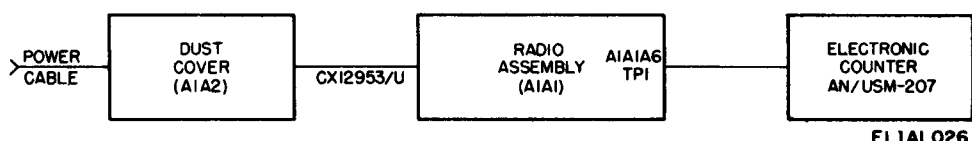

Figure 6-18. Calibration oscillator test connections.
b. Connect the test equipment as shown in figure 6-18.